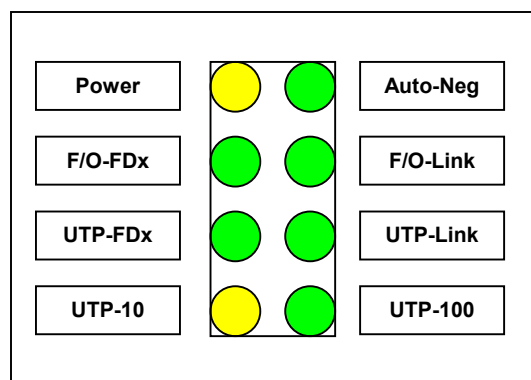

Figure 2 LED Layout
5.3 The RLH Ethernet Card provides LED Indicators on the front of the PCB. The LED's show availability of power, the modes of operation (10/100 and half or full duplex), the detection of devices and data being received by the fiber and UTP ports. See figure 2.